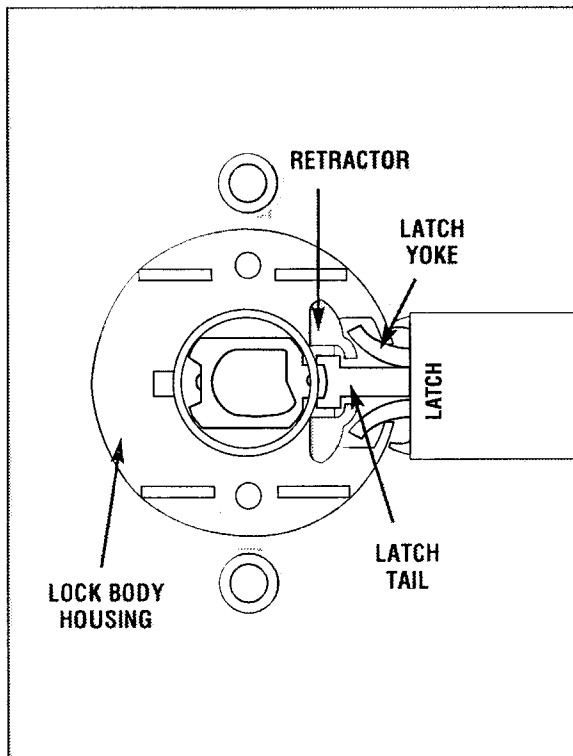

FIG. 6 VIEW FROM INSIDE OF DOOR:
Lock is not properly engaged with latch or mis-aligned. Lock is not centered on door. (See page 6, Fig.6)
- See Page 6, Fig. 6 "View from inside of door" diagram.**